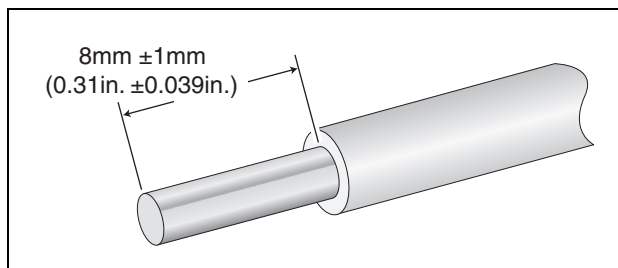

Figure 72. Stripped Wire
4. With a 14-gauge wire-stripping tool, strip the three wires in the tray cable coming from the DC input power source to $8\text{mm} \pm 1\text{mm}$ ($0.31\text{ in.} \pm 0.039\text{ in.}$), as shown in Figure 72 on page 104.